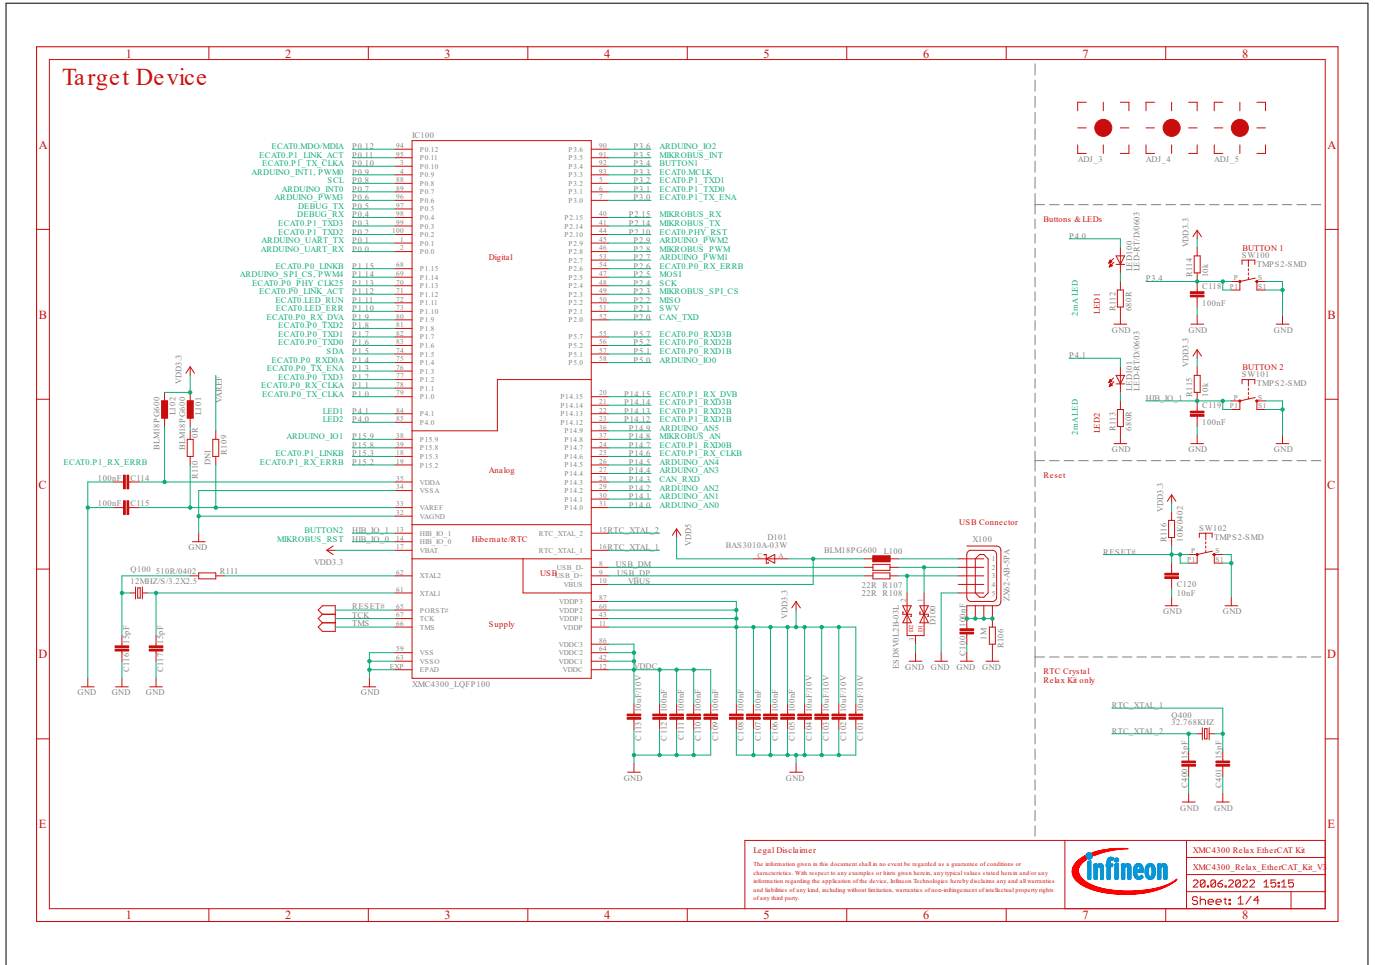

Figure 11 Schematic: MCU, Push Buttons, LEDs, Reset Button, Crystals, USB (see revision Revision 1.1)
- Figure 11 (See Revision 1.1)